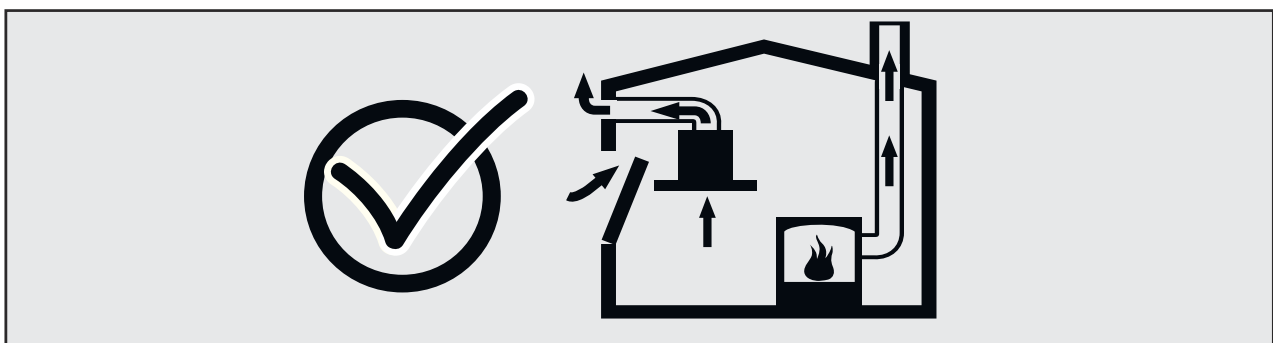

Fig. 3
- Therefore, you should always ensure a sufficient supply of fresh air. Fig. 3